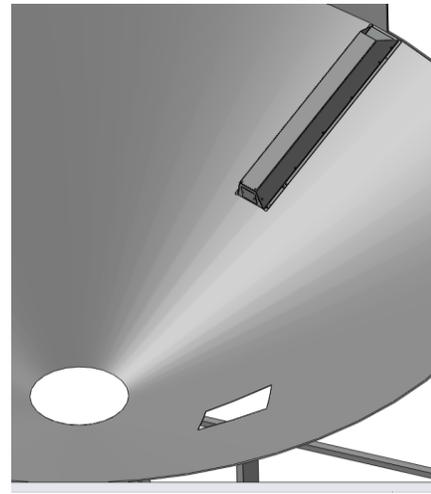

Fig. 3.4.1c:Column Hopper 4ft Install
- See Figure 3.4.1c, use a metal cutting tool to make the hole in the hopper cone. Before proceeding with creation of other holes, lay the COLUMN HOPPER 4FT assembly inside the hopper cone and rough fit into the hole. Check to ensure that the COLUMN HOPPER 4FT fits up tight against the bin wall and that it sits down flat on the hopper cone.